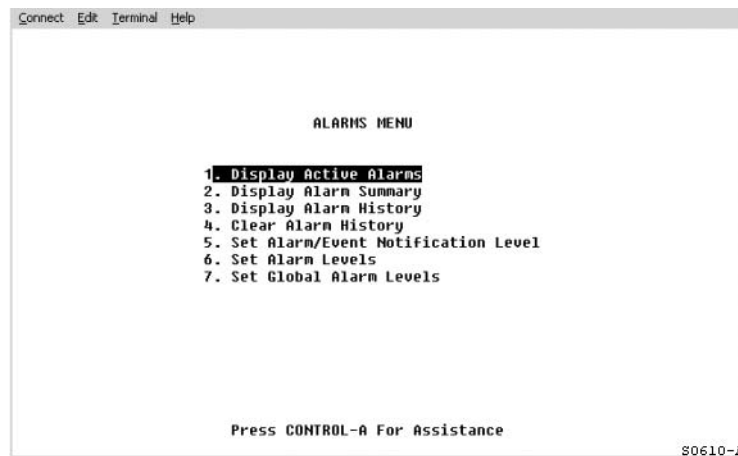

Figure 16. Alarms Menu
- 2 From the Main Menu, use the arrow or number keys to select **Alarms**. (Press **ENTER** if using the arrow keys.) The Alarms Menu appears (Figure 16).
- 2 From the Main Menu, use the arrow or number keys to select **Alarms**. (Press **ENTER** if using the arrow keys.) The Alarms Menu appears (Figure 16 on page 25).
- 2 From the Main Menu, use the arrow or number keys to select **Alarms**. Press **ENTER** if using the arrow keys. The Alarms Menu appears (Figure 16 on page 25).